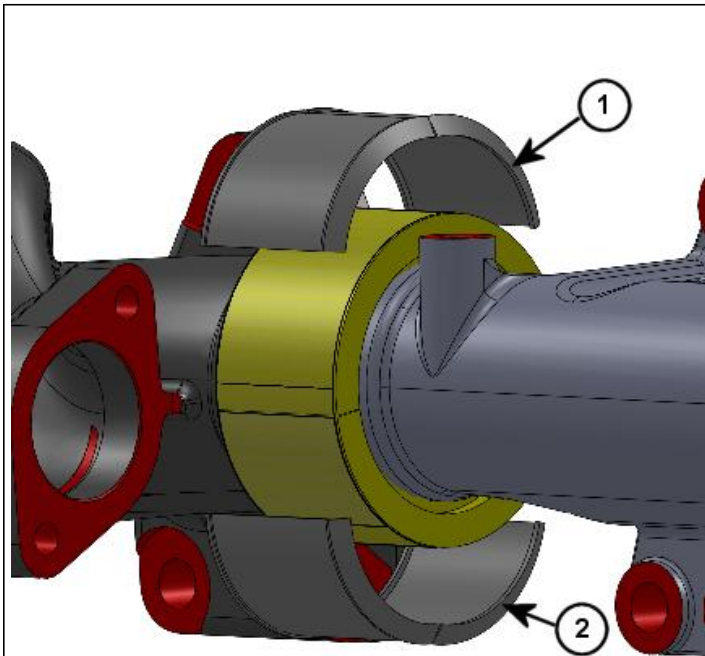

Figure 4 - Installing Shields (2)
**Step 3: Installing the Shields ( housings).** (Figure 4)